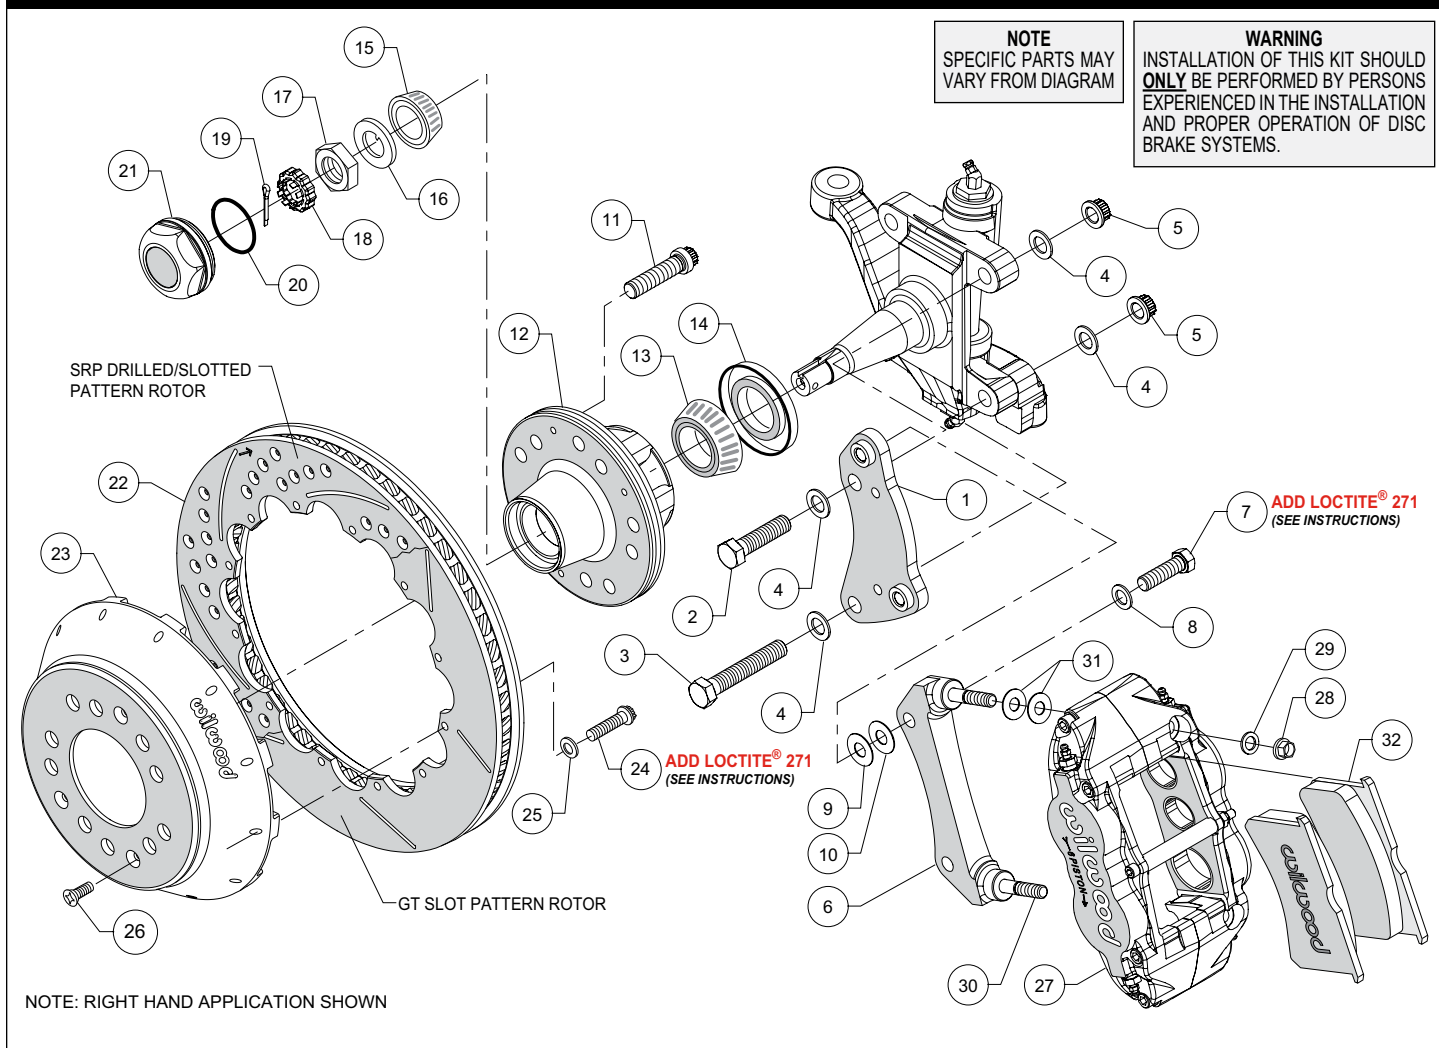
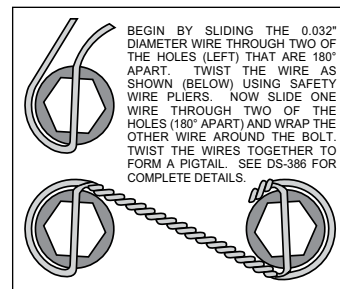

Figure 1. Typical Installation Configuration
Figure 3. Safety Wire Diagram
**NOTE:** Numbers in parenthesis refer to the parts list and Figure 1 on the preceding pages.
- Orient the spindle bracket (1) as shown in Figure 1 and Photo 1, and install using bolts (2 and 3), washers (4) and nuts (5). Temporarily tighten the mounting bolts. Ensure that the flanged heads of the clinch nuts in the bracket are facing outboard, Photo 1. **NOTE:** The bracket must fit squarely against the mount bosses on the upright. Inspect for interference from casting irregularities, machining ridges, burrs, etc. Torque lock nuts (5) to 65 ft-lb.
- The caliper mount radial bracket (6) should initially be installed with clean, dry threads on the mounting bolts. Orient the bracket as shown in Figure 1, and Photo 2. Install onto the spindle bracket using bolts (7), and washers (8). Initially place one .030 thick shims (9) on each bolt between the radial and spindle brackets, Figure 1. Temporarily tighten the mounting bolts. Later, after the caliper alignment has been checked, the mount bolts will be secured using red *Loctite*® 271.
- Install wheel studs (11) into the hub (12), Photo 3. Torque to 77 ft-lb. **NOTE:** There are two five lug patterns in the hub (5 x 4.50 and 5 x 4.75). Ensure the correct hub stud pattern is being used to fit the wheel application.
- Pack the large inner bearing cone (13) with high temperature disc brake bearing grease (available from your local auto parts store) and install into the backside of the hub (12), Photo 4.
- Install the grease seal (14) by pressing into the backside of the hub (12), flush with the end of the hub, Photo 5.
- Pack the small outer bearing cone (15) with high temperature disc brake bearing grease and install into the front side of the hub (12), Photo 6. Slide the hub assembly onto the spindle. Secure using spindle washer (16) and spindle nut (17). Adjust bearings per OEM specifications. Install spindle nut retainer (18) and cotter pin (19), Photo 7.
- Screw dust cap (21) into hub (12), Photo 8. Friction created by the o-ring (20) on the dust cap keeps it from unscrewing. **NOTE:** The O.D. of the existing OEM spindle washer may be larger than the I.D. of the dust cap not allowing it to seat against the hub face. Therefore, use the spindle washer (16) supplied with the kit instead of the OEM washer.
- Orient the rotor (22) and the hat (23) as shown in Figure 1 and Photo 9. Attach rotor to hat using bolts (24) and washers (25). Apply red *Loctite*® 271 to the bolt threads and torque to 155 in-lb using a criss-cross pattern. For an added measure of security, the bolts may be safety wired using standard 0.032 inch diameter stainless steel safety wire as shown in Figure 3. Refer to Wilwood's data sheet DS-386 (available at [www.wilwood.com/Pdf/DataSheets/ds386.pdf](http://www.wilwood.com/Pdf/DataSheets/ds386.pdf)) for complete safety wire installation instructions.
- Slide the hat/rotor assembly (23/22) onto the hub (12) taking care to align the small countersunk holes in the hat with the small threaded holes in the hub, Photo 10. **NOTE:** The hat must fit flush against the hub face or excessive rotor run out may result. Install three flat head screws (26) through the small holes in the hat, and torque to 85 in-lb.
- NOTE:** This kit contains distinct right and left hand calipers that must be mounted in a specific direction, as described below. Initially place two .035" thick shims (31) on each stud (30) between the caliper and the bracket, as shown in Figure 1 and Photo 11. Mount the caliper (27) onto the bracket (6) using lock nuts (28) and washers (29), Figure 1. Ensure that the caliper is mounted so the largest pistons are at the rotor exit end of the caliper, in relation to the direction of rotor rotation. Temporarily tighten the lock nuts and view the rotor through the top opening of the caliper. The rotor should be centered in the caliper, Photo 12. If not, adjust by adding or subtracting shims (9 and/or 10) between the spindle bracket (1) and the caliper mount bracket (6). Always use the same amount of shims on each of the two mounting bolts (7). Once the caliper alignment is correct, remove